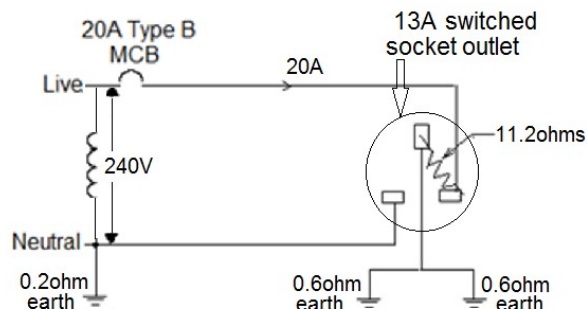

Figure Q6(b)
- 6(b) Determine the earth fault loop impedance of the circuit in Figure Q6 (b) at the 13A switched socket outlet. (4 marks)